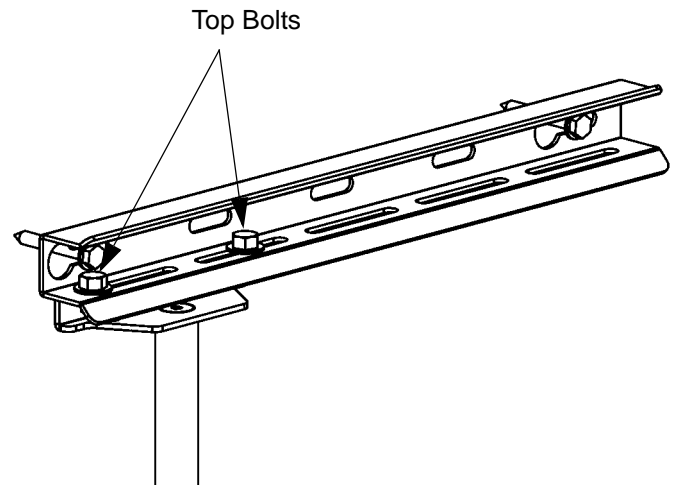

Figure 13. Adjust Swing Arm – Left of Center
2. Remove four bolts (two on the top and two on the bottom) securing the swing arm assembly to the top and bottom mounting brackets (see Figure 13).
- For left of center, see Figure 13.
5. Install four bolts (two on the top and two on the bottom) to secure the swing arm assembly to the top and bottom mounting brackets (see Figure 13).